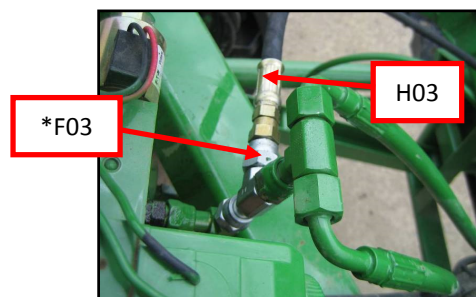

Figure 7: Main Lift Tee Installed
10. Tee in H03 to the existing main lift line on the John Deere valve block, using the tee fitting (*F03). (Figure 7)